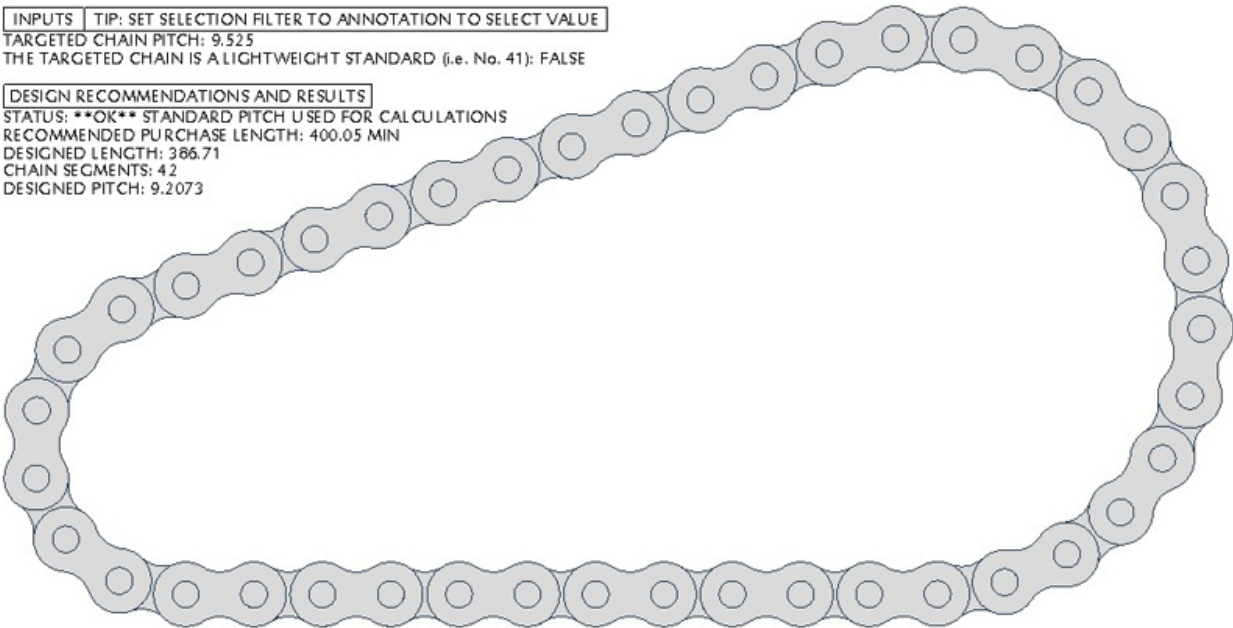

Figure 1
- Next, the UDF feature placement dialog box will appear. Utilize the **Variables** tab to set your chain pitch value if known. Standard values for millimeter parts are shown in figure 1.
- Next, utilize the **Variables** tab to set your chain pitch value if known. Standard values for inch parts are shown in figure 1.